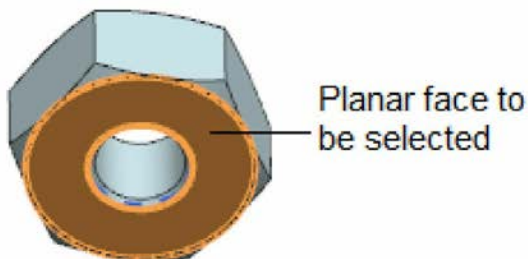
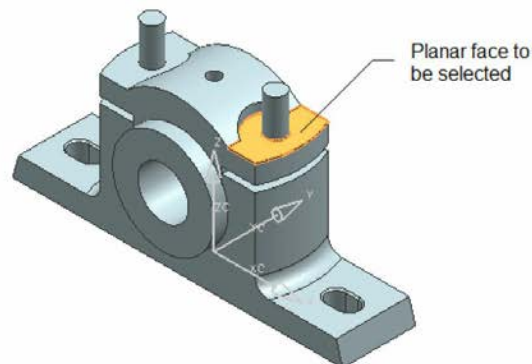

Figure 8-100 Bottom planar face to be selected from the Nut
Figure 8-101 Planar face to be selected from the Cap
7. Rotate the view of the Nut and select its bottom planar face, refer to Figure 8-100. Next, select the planar face from the Cap, refer to Figure 8-101.